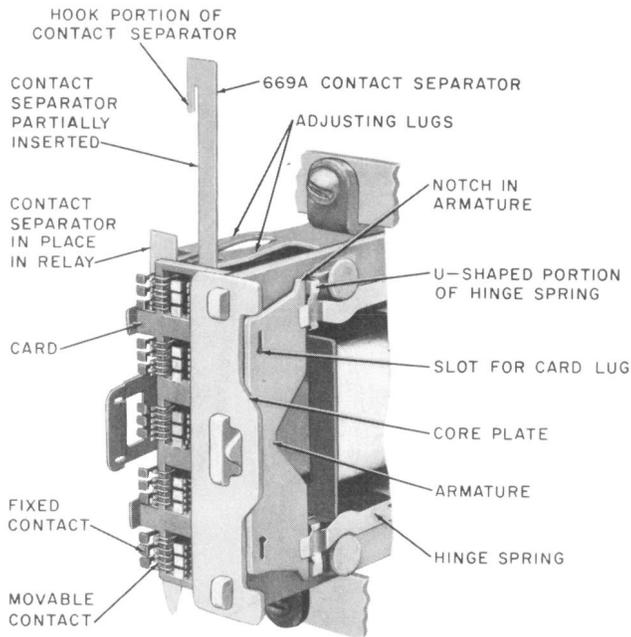

Fig. 4—286-Type Relay—Positioning 699A Contact Separator
3.06 Before proceeding with removal of parts, insert a 669A contact separator between the fixed and movable contact springs in both vertical rows as follows: Hold the contact separator with the hook portion at the left as shown in Fig. 4 and carefully insert the tip behind the card and between the fixed and movable contact springs in one of the vertical rows. Then place the end of the KS-6320 orange stick so it bears lightly against both the right edge of the separator and the adjacent edge of the card to guide the separator during insertion. Slowly insert the separator while maintaining light pressure on the orange stick. Keep the separator vertical so the springs will remain in their proper horizontal positions, and move the separator downward until the hook portion engages the upper fixed contact springs. Similarly, insert another contact separator between the fixed and movable contact springs in the other vertical row. Figure 4 shows one contact separator fully inserted and the other contact separator partially inserted.
orange stick, successively lift the top and bottom armature hinge springs just enough to insert the armature under these springs. Insert the armature under the springs with the armature stop plate toward the core. Then position the armature so the U-shaped portion of each hinge spring engages its associated notch in the armature as shown in Fig. 4. Make sure both hinge springs fully engage the armature by pushing against the U-shaped portion with the orange stick. Position the card so the card lugs engage the associated slots in the armature.
the fixed and movable contact springs in both vertical rows of the relay unit to be worked on as follows: Hold the contact separator with the hook portion at the left and carefully insert the tip behind the card and between the fixed and movable contact springs in one of the vertical rows in a manner similar to that shown in Fig. 4. Then place the end of the KS-6320 orange stick so it bears lightly against both the right edge of the separator and the adjacent edge of the card to guide the separator during insertion. Slowly insert the separator while maintaining light pressure on the orange stick. When working on the top unit, insert the separators from the top and, when working on the bottom unit, insert the separator from the bottom. Keep the separator vertical so the springs will remain in their proper horizontal positions and move it downward or upward as required until the hook portion engages the upper or lower fixed contact springs. Take care to avoid separating any contacts of the other unit on the relay. Similarly, insert another contact separator between the fixed and movable contact springs in the other vertical row. When working on a lower unit of a relay having a 245-, 254-, 263-, or 264-type relay adjacent at the left, insert the separators only far enough to separate all contacts in the row. If the separators are fully inserted, difficulty may be encountered in removing them.
3.28 Mounting Armature: Using the KS-6320 orange stick, successively lift the top and bottom armature hinge springs just enough to insert the armature under these springs. Insert the armature under the springs with the armature stop plate toward the core. Then position the armature so the U-shaped portion of each hinge spring engages its associated notch in the armature as shown in Fig. 4. Make sure that both hinge springs fully engage the armature by pushing against the U-shaped portion with the orange stick. Position the card so the card lugs engage the associated slots in the armature.